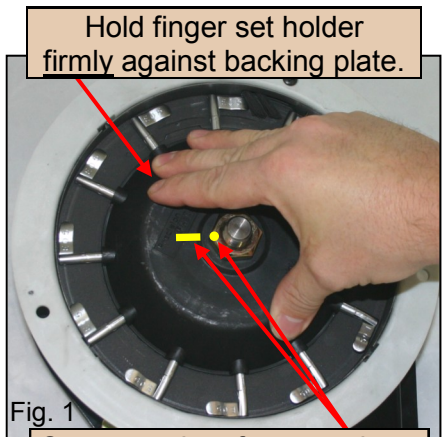

Fig. 1
- Step 3** While holding the finger set firmly against the backing plate, spin the nut down until it first contacts the top of the finger set holder. Mark one of the six points on the nut and the corresponding point on the finger set holder. (Figure 1)